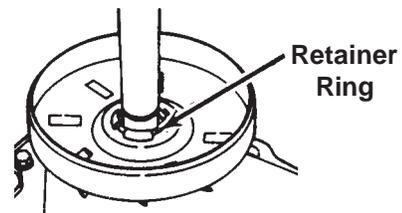

Fig. 3-26
4. Remove the retainer ring and lift the clutch hub up and off the spin pinion. (Fig. 3-26)